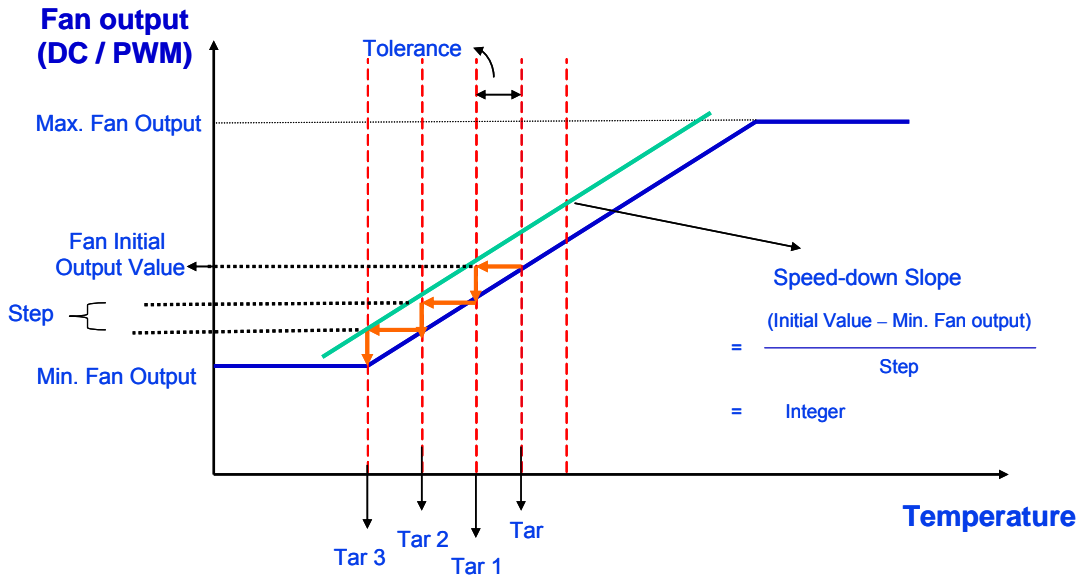

Figure 7.11
- (7) In the case that currently measured temperature goes below (Target Temperature – Temperature Tolerance), which is shown in Figure 7.11, fan speed slows down by one step. “Step” here refers to the value in the CPUFANOUT Output Value Select Register, Bank0 Index03h or Index61h.
- (8) Meanwhile, original Target Temperature dynamically shifts to (Target Temperature – Temperature Tolerance), and new Target Temperature, named Target Temperature 1, is formed. In other words, Target Temperature 1 equals original Target Temperature minus Temperature Tolerance.
- (9) If the currently measured temperature is within the (Target Temperature 1 \pm Temperature Tolerance) then, the fan speed remains constant. Otherwise, fan speed slows down by one step again. Target Temperature then dynamically shifts to (Target Temperature 1 – Temperature Tolerance), and new Target Temperature again, named Target Temperature 2, is formed.
- (10) The fan-slow-down and Target Temperature comparison-then-shift process continue until currently measured temperature locates within (Target Temperature \pm Temperature Tolerance), or fan output speed hits its minimum speed.
- (11) Please be noted that “Speed-down Slope” shown in the Figure 7.11 must be an integer. In other words, $\frac{\text{InitialOutput} - \text{Min.FanOutput}}{\text{Step}}$ must be an integer; otherwise, it may lead to register overflow.
- (12) In the case that the temperature is always lower than (Target Temperature \times Temperature Tolerance), and, for some reason, the fan speed would like to be kept at the minimum speed, Stop Value, instead of being stopped, set register Bank0 12h.bit 4. Set bit 4 to 1, fan speed will always keep at the value set in Bank0 Index09h when temperature is always below (Target Temperature \times Temperature Tolerance). Set bit 4 to 0, fan speed will decrease to 0 after a time period set in Bank0 Index 0Dh.